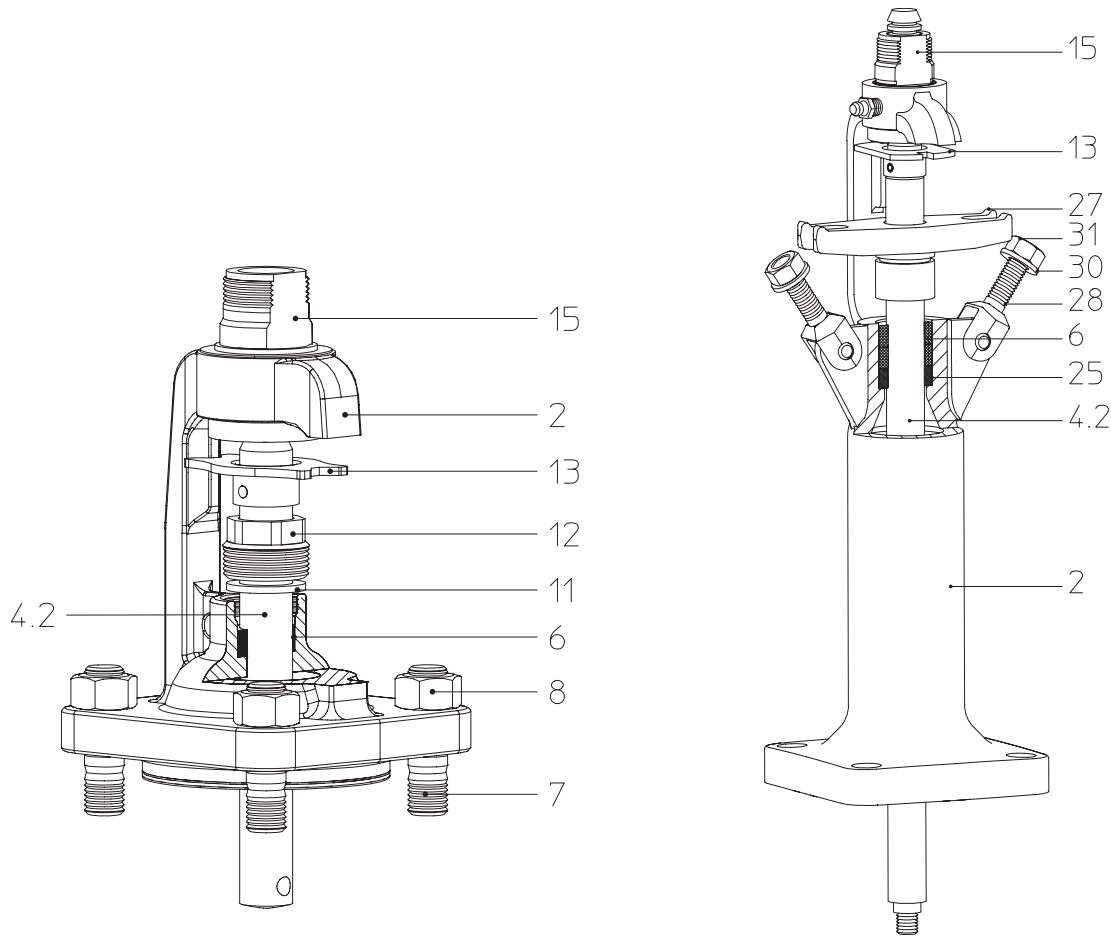

Fig. 10 FABA®-Plus:
If the stem (pos. 4.2) starts leaking, tighten the bolted gland (pos. 12) until leaking stops (Fig. 10). Replace bonnet at earliest opportunity!
Gland screw (pos. 12, Fig. 10) slack	Tighten gland screw (pos. 12, Fig. 10) until leakage stops; Replace bonnet at earliest opportunity!
If necessary, renew packing in stuffing box seal (pos. 6); Observe warnings (Fig. 11 - Fig. 10)!